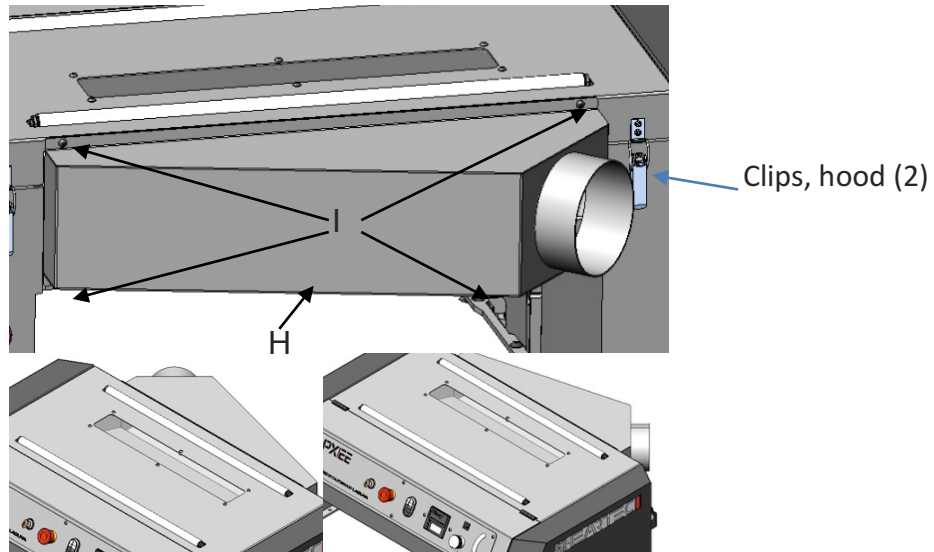

Figure 5: Dust Chute & Hood Clips
4. The dust chute can be attached with the port facing either to the right or left. To attach use four included screws (Fig. 5, H) to mount to the rear (outfeed) side of the planer head.
1. Release the 2 Clips (Fig. 5) on each side of the hood.
2. Remove the two lower screws holding the dust chute in place (Fig. 5)